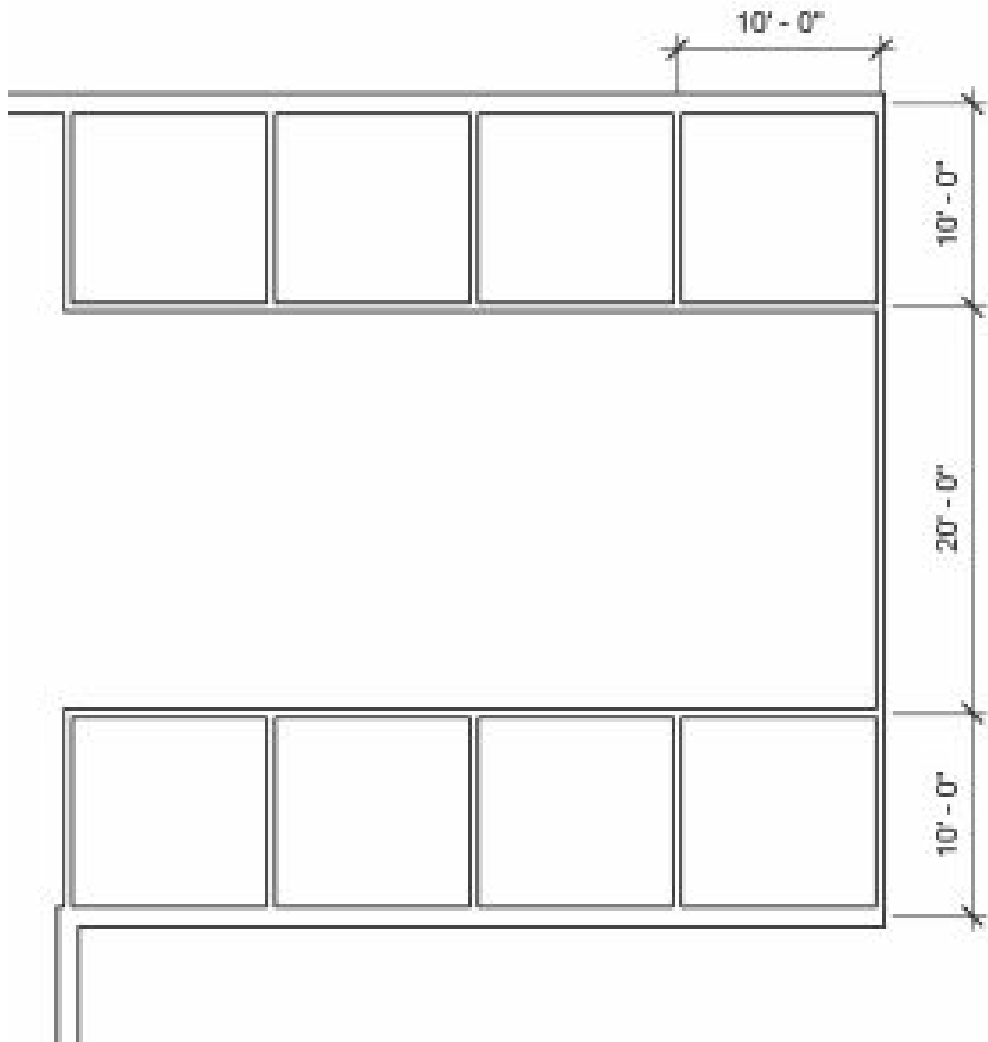

Figure 2.25 Eight enclosed rooms with dimension lines
6. Draw 8 enclosed rooms as shown in Figure 2.25